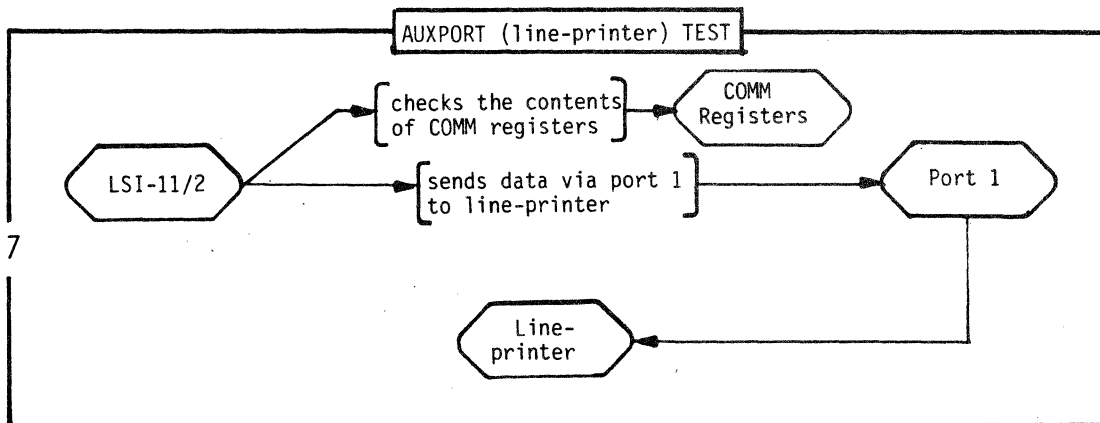

Fig. 4-16. Line printer test.
7. LINE PRINTER TEST (Fig. 4-16). The LSI-11/2 processor sends a pattern of letters to the line printer via the PRINTER port. You can then visually compare the received (printed) line printer pattern to the pattern shown below. On a wide line printer, the pattern below appears on one line.